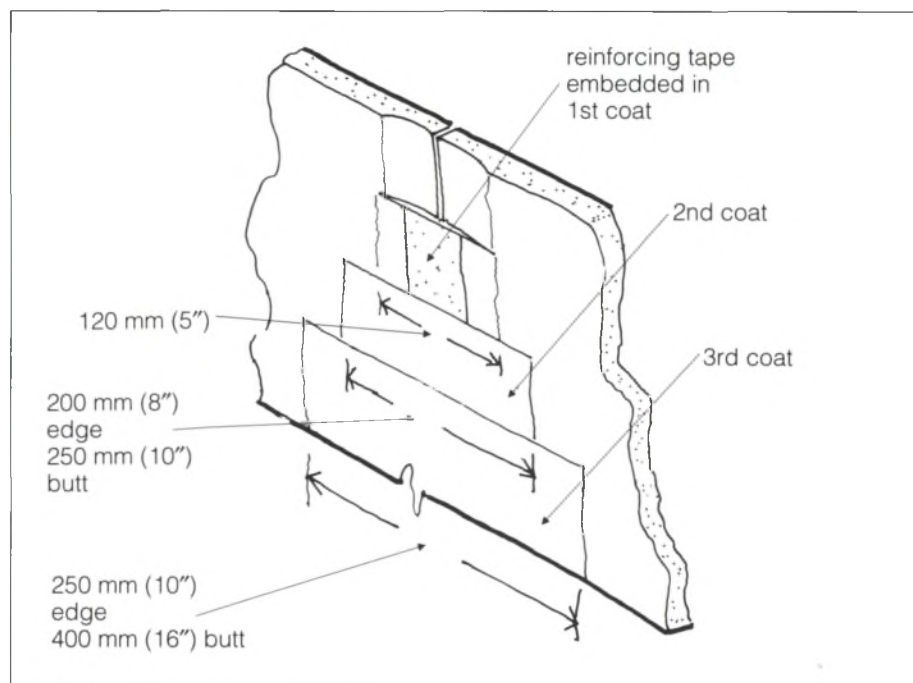

Fig. 21. Typical joint treatment
- Feather butt joints wider than edge joints (*fig. 21*).